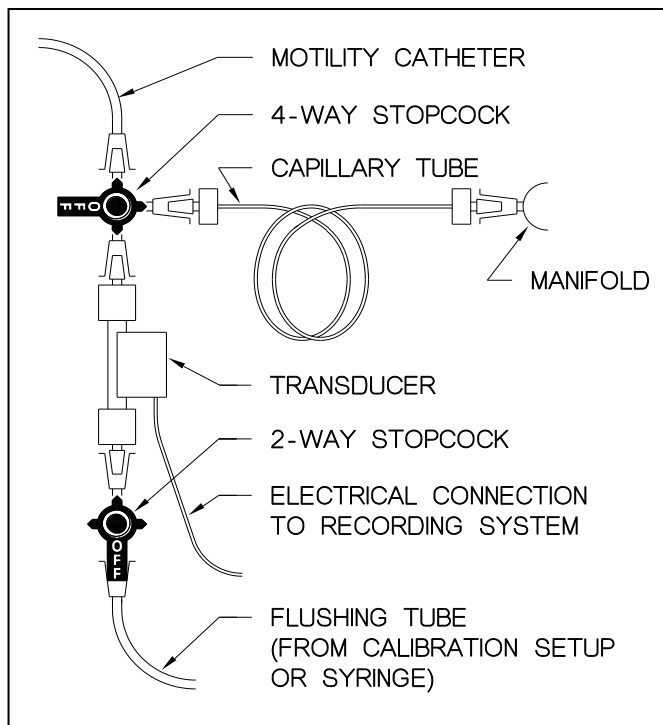

Figure 9. Installation of Stopcocks on Transducer
Install plastic stopcocks (not supplied) to the input and output ports of the transducers and attach capillary tubes as shown in Figure 9, to aid in the purging of air bubbles.
The most common cause of loss of recording accuracy in a motility system is air bubbles trapped in the transducer or in the motility catheter. Figure 9 shows the way to connect the transducers to the Manometric Pump and the catheter when using a large syringe. This setup requires additional 2-way and 4-way stopcocks for each transducer. Ample water under pressure can be flushed from the bottom to the transducer in order to push any air bubbles up and out the top of the transducer. This method ensures that the transducer and catheter are free of air bubbles in the shortest time possible.
- After the water chamber pressure has been adjusted to the desired level (usually 15 psi), open all 4-way stopcocks on top of the transducers as shown in Figure 9, Section 3.5.